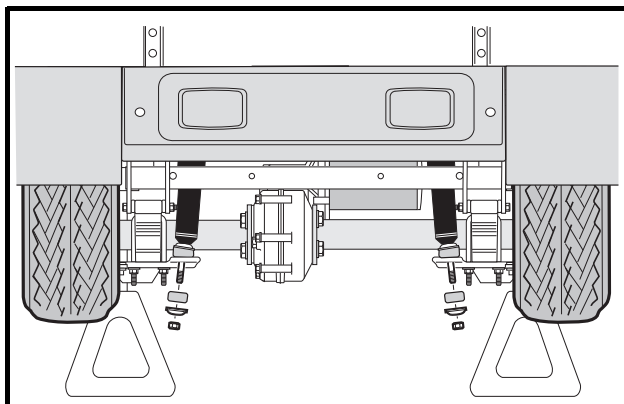
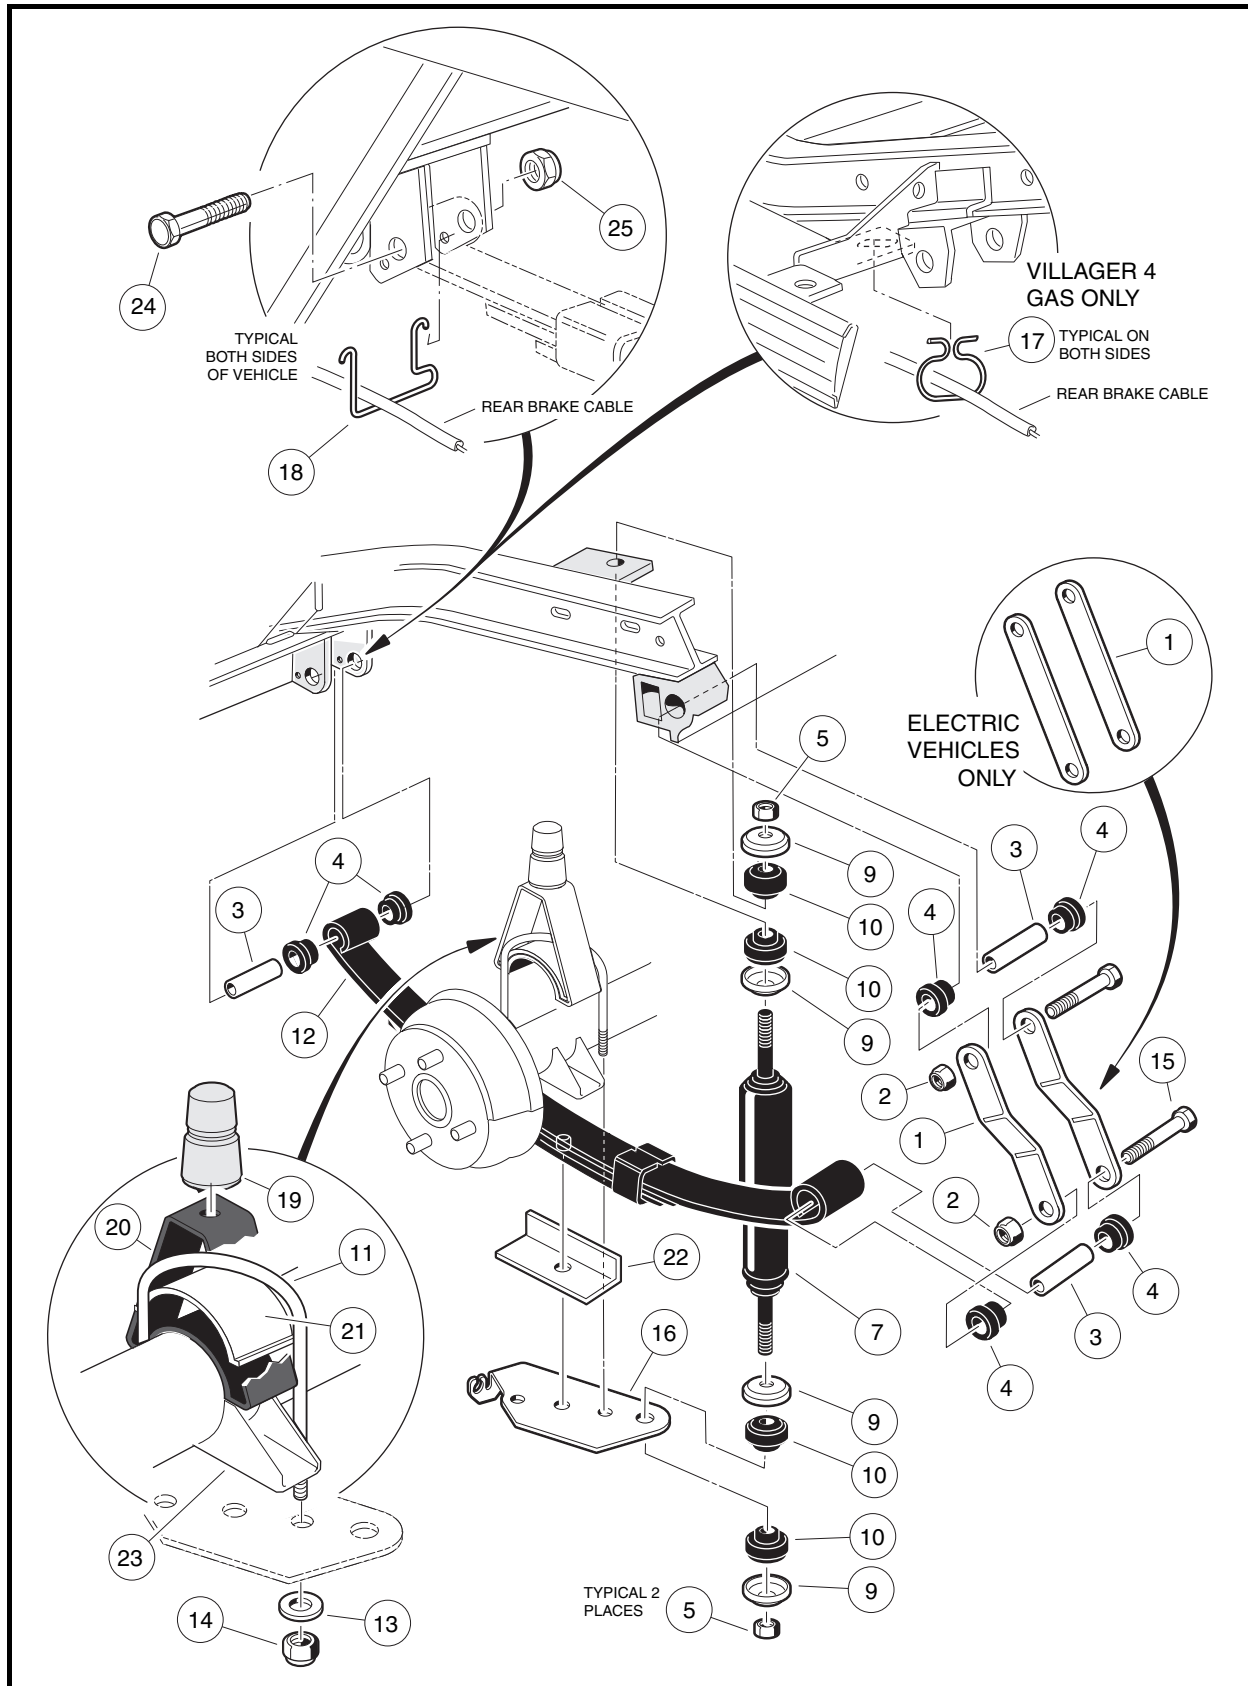

Figure 9-1 Remove Shock Absorbers
Figure 9-3 Rear Suspension – Villager 4 Vehicles
1. Check shock absorbers (7) for damage and fluid leakage around the lower housing of the shock absorber body. Replace damaged or leaking shock absorbers (**Figure 9-3, Page 9-4 or Figure 9-4, Page 9-5**).
2. To remove a shock absorber (7), remove the nut (5), cup washer (9), and rubber bushing (10) from the upper shock absorber stem.
3. Remove lower mounting hardware (5, 9 and 10) on shock absorber lower mount (**Figure 9-3, Page 9-4 or Figure 9-4, Page 9-5**). See also **Figure 9-1, Page 9-1**.
2. On the upper shock absorber mount, tighten nut (5) until rubber bushing (10) expands to size of cup washer (9) (**Figure 9-3, Page 9-4 or Figure 9-4, Page 9-5**).
3. On the lower shock absorber mount, install mounting hardware. Tighten the nut (5) until the rubber bushing (10) expands to the same diameter as the cup washer.
NOTE: Villager 4 vehicles are equipped with jounce bumpers (**Figure 9-3, Page 9-4**).
5. Remove lower nut (5), cup washer (9), and rubber bushing (10) from shock absorber (7) (**Figure 9-3, Page 9-4 or Figure 9-4, Page 9-5**).
- 6.1. Remove the lock nuts (14) and flat washers (13) (if present) attaching the U-bolt (11) to the shock mount bracket (16). Remove jounce bumper mount (20) and spacer (21) (**Figure 9-3, Page 9-4**).
- 6.2. Allow shock mount bracket (16) to rotate downward and remove spring retainer (22). Do not disconnect brake cable from bracket (**Figure 9-3, Page 9-4**).
8. Raise axle with floor jack until axle saddle (23) is 1 inch (2.5 cm) above spring (**Figure 9-3, Page 9-4**).
9. Remove bolt (15) and lock nut (2) attaching the leaf spring (12) to the rear shackle (1) (**Figure 9-3, Page 9-4 or Figure 9-4, Page 9-5**).
10. Allow rear of leaf spring (12) to rest on the ground and remove the bolt (24) and lock nut (25) attaching the front of the spring to the vehicle frame (**Figure 9-3, Page 9-4 or Figure 9-4, Page 9-5**). Remove spring from vehicle.
11. Inspect the rubber bushings (4) and steel sleeves (3) in the spring eyes and replace them if they are worn or damaged (**Figure 9-3, Page 9-4 or Figure 9-4, Page 9-5**).
1. Install rubber bushings (4) and steel sleeves (3) into leaf spring eyes if bushings were removed (**Figure 9-3, Page 9-4 or Figure 9-4, Page 9-5**).
2. Place front of leaf spring (12) into vehicle frame and insert bolt (24) through frame and leaf spring eye. Install lock nut (25) and tighten to 15 ft-lb (20.3 N-m).
3. Align the other end of leaf spring with the holes in the spring shackles (1). Insert bolt (15) through leaf spring eye and shackles. Install lock nut (2) and tighten to 15 ft-lb (20.3 N-m). Lower transaxle onto leaf spring (12). **See following CAUTION.**
- When placing transaxle on spring, be sure to position locating bolt on the spring in the locating hole in the transaxle saddle (23) (**Figure 9-3, Page 9-4**).
- 4.1. Install spring retainer (22) and shock mount bracket (16) onto locating bolt at bottom center of leaf-spring (**Figure 9-3, Page 9-4**). **See preceding CAUTION.**
- 4.2. Position jounce bumper mount (20) with spacer (21) onto axle tube. Install U-bolt (11), flat washers (13) (if present), and lock nuts (14). Tighten U-bolt to 25 ft-lb (34 N·m) (**Figure 9-3, Page 9-4**).
1. Grip jounce bumper (19) and pull from bumper mount (20) (**Figure 9-3, Page 9-4**).
1. Insert jounce bumper (19) into bumper mount (20) (**Figure 9-3, Page 9-4**). Make sure the entire circumference of bumper is seated firmly in mounting hole.